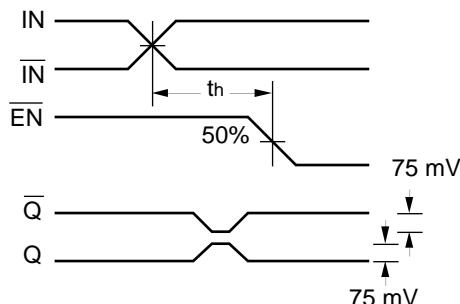

Figure 2. Hold Time
- The hold time is the minimum time that \bar{EN} must remain asserted after a negative going IN or a positive going \bar{IN} to prevent an output response greater than $\pm 75mV$ to that IN/ \bar{IN} transition (see Figure 2).